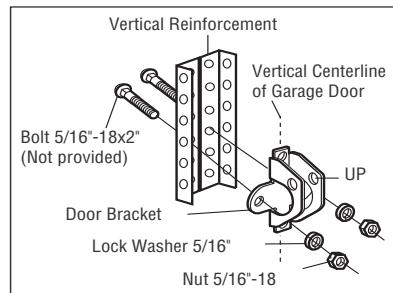

FIGURE 4
- Drill 3/16" fastening holes. Secure the door bracket using the self-threading screws. (Figure 4)